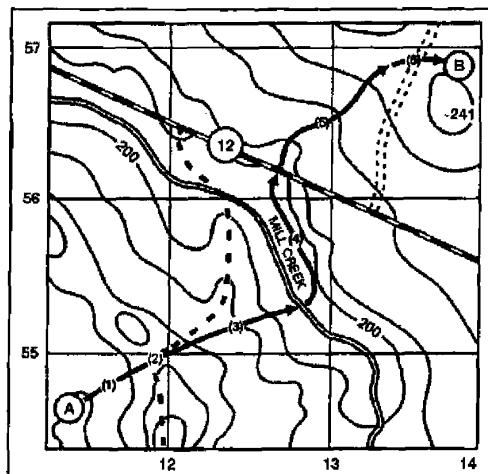

Figure 071-329-1006-3. Route of travel
f. Referring to figure 071-329-1006-3, pick your checkpoints.
- (1) Saddle, use Hill 241 to line on up the right valley, and follow to—
- (2) Stream, move along it until—
- (3) Bend in the stream, turn right to—
- (4) Road in the valley (the ridge crossing on the road on the 12-grid line will serve as a limiting feature), then up to—
- (5) Far saddle, and right to your objective (B).